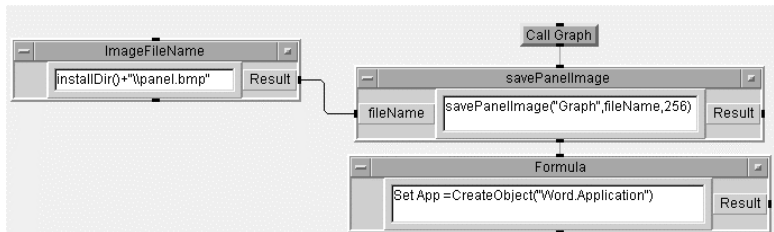

Figure 9.11. Connections for first portion of Lab 9.3
22. Connect these four objects as shown in Figure 9.11; save this program as LAB9-3.